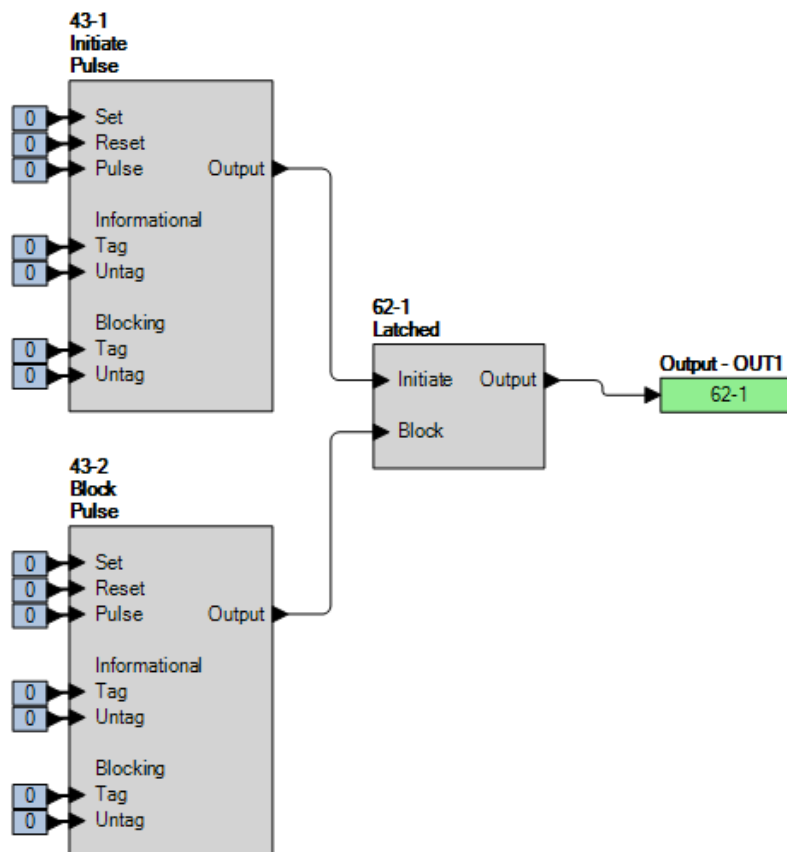

Figure 69-7. BESTlogicPi+ Settings (Latched Mode)
Step 2: Use BESTCOMSPi+ to configure the BESTlogicPi+ programmable logic shown in Figure 69-7.